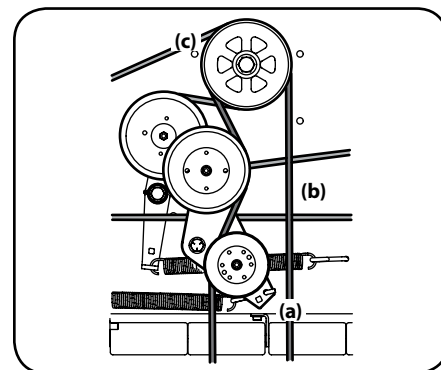

Figure 4-10
4. Using a $\frac{1}{2}$ " drive in the idler pulley bracket (a), turn the wrench towards the right of the tractor and slide the PTO belt (b) off the PTO pulley (c). See Figure 4-10.